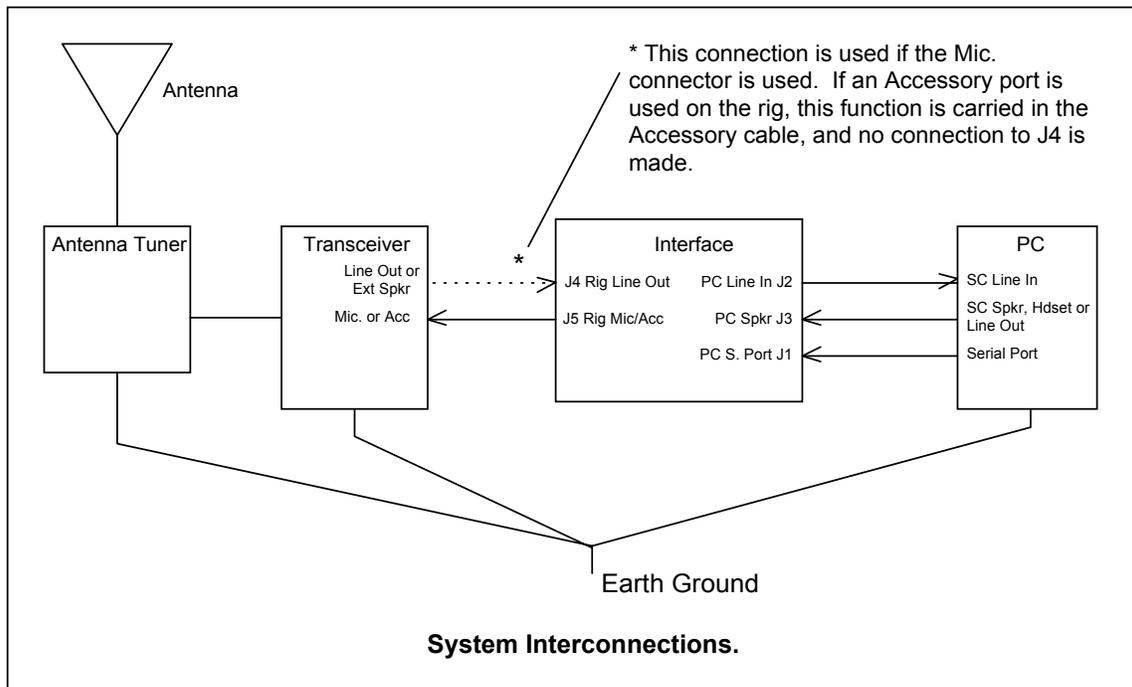

Figure 7.1 System Interconnections
7.2 Hook Up Your Rig - At this time, be sure that you have good ground connections to your PC the SSB rig and the tuner. Now, hook up the rig, interface and PC as shown in figure 7.1 below. Put the PTT control switch on the interface to the “Off” (center) position for initial tests. Be careful that you select the correct connectors on the sound card. The markings are etched on the metal and are hard to read. Refer to your sound card manual.